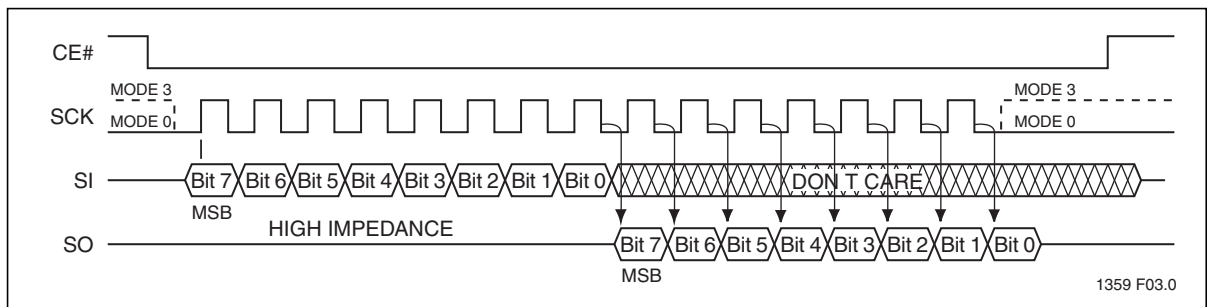

Figure 4: SPI Protocol (Traditional 25 Serial SPI Device)
SQI Flash Memory protocol supports both Mode 0 (0,0) and Mode 3 (1,1) bus operations. The difference between the two modes, as shown in Figures 4 and 5, is the state of the SCK signal when the bus master is in Stand-by mode and no data is being transferred. The SCK signal is low for Mode 0 and SCK signal is high for Mode 3. For both modes, the Serial Data I/O (SIO[3:0]) is sampled at the rising edge of the SCK clock signal for input, and driven after the falling edge of the SCK clock signal for output. The traditional SPI protocol uses separate input (SI) and output (SO) data signals as shown in Figure 4. The SST26VF016/032 use four multiplexed signals, SIO[3:0], for both data in and data out, as shown in Figure 5. This quadruples the traditional bus transfer speed at the same clock frequency, without the need for more pins on the package.